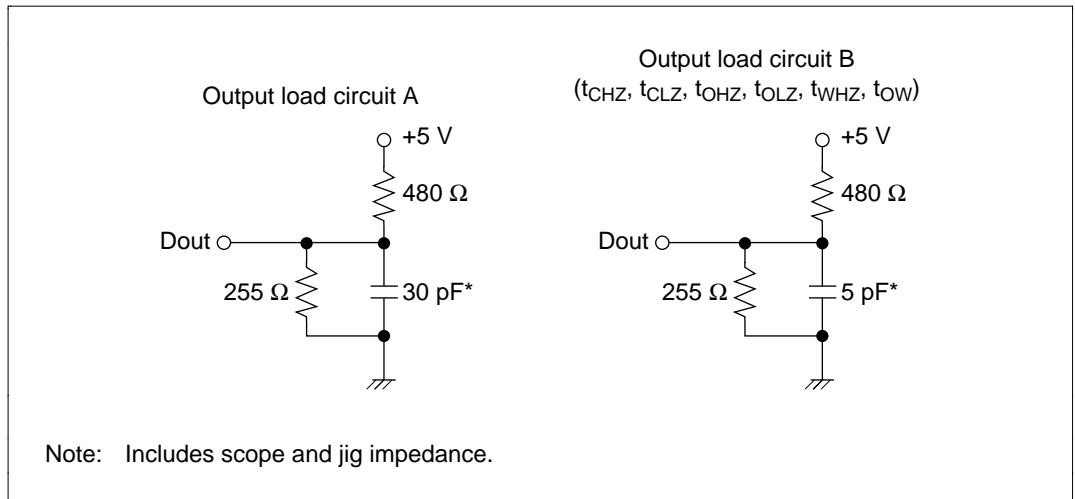

Figure 5.1 Output Loading Conditions
- Output load: see figure 5.1
Note: Transition is measured at ± 200 mV from the high impedance voltage due to load circuit (B) (figure 5.1). This parameter is not measured for all items but is a sample value.